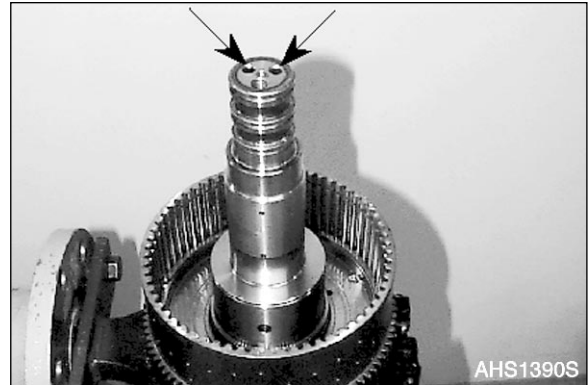

Figure 179
4. Wet both roll pins (Figure 179) with Loctite #262 and install them.